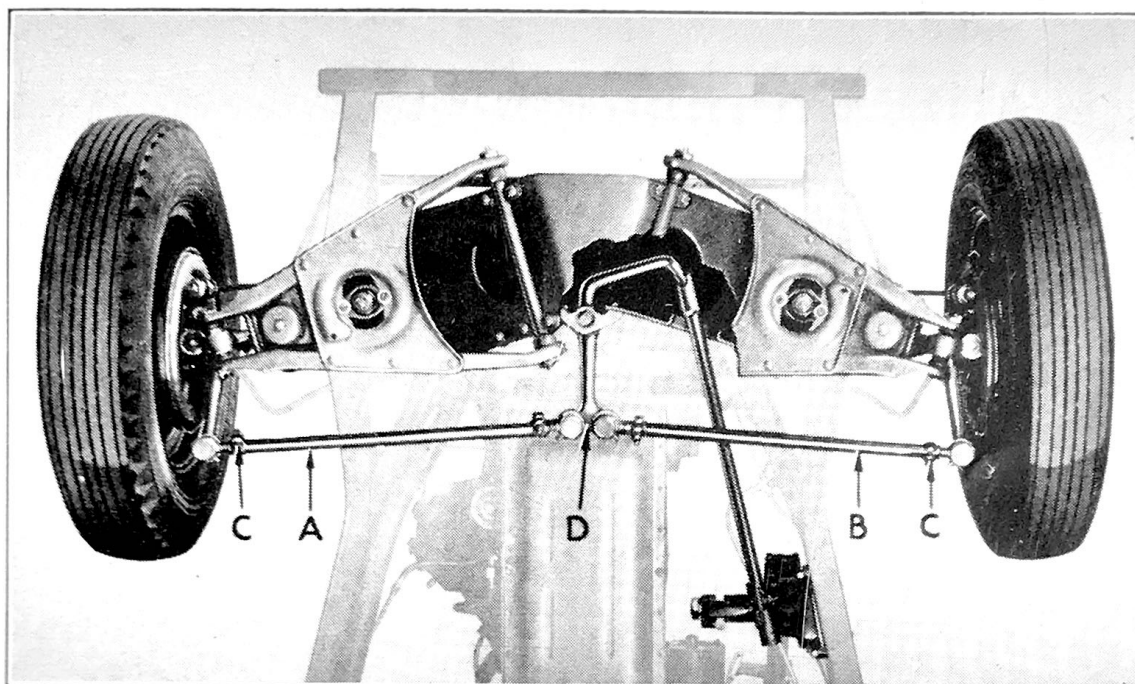

Figure 36
Wheel Toe-in is controlled by individual adjustment of two short tie rods (A) and (B), Fig. 36. The proper toe-in is zero to $\frac{1}{16}''$. Before making adjustments be sure front wheels are in true straight ahead position and center steering arm is parallel to center line of car. Take measurements on wheel rim.